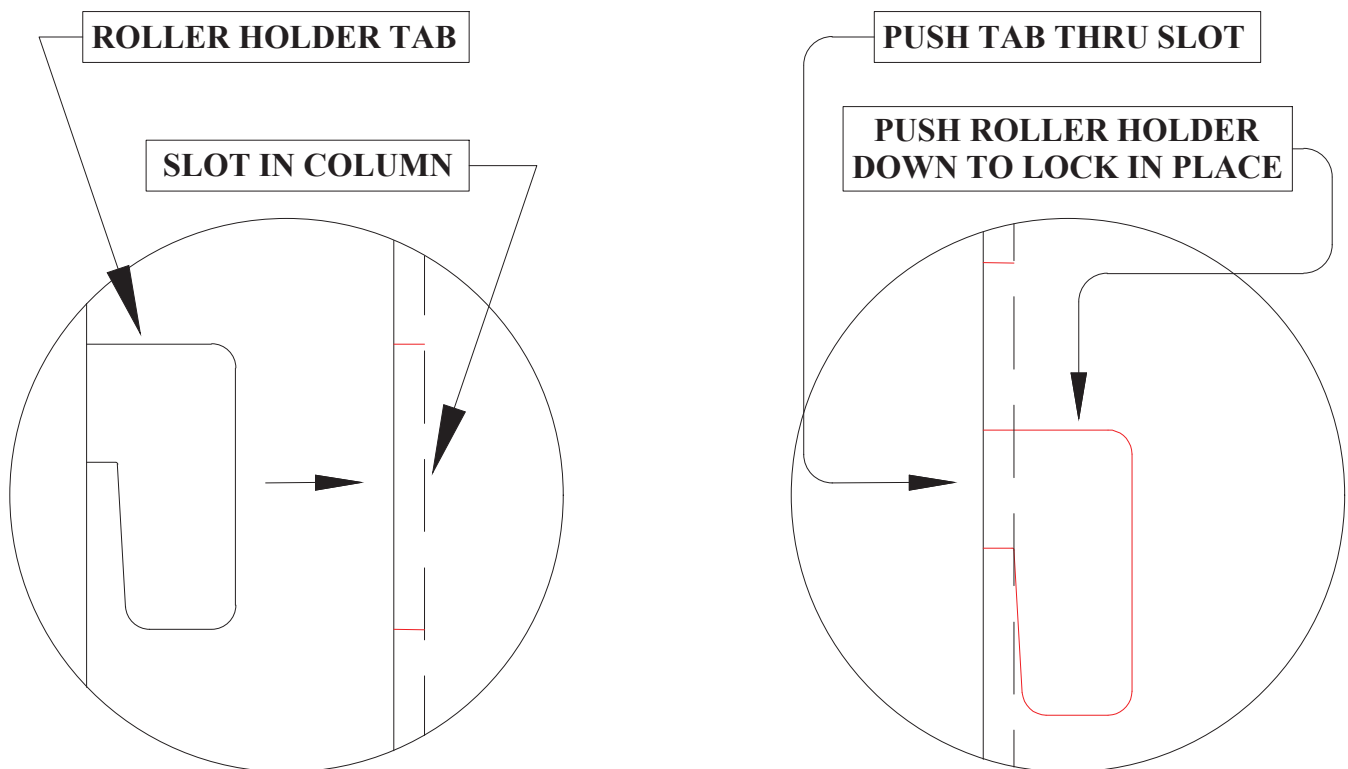
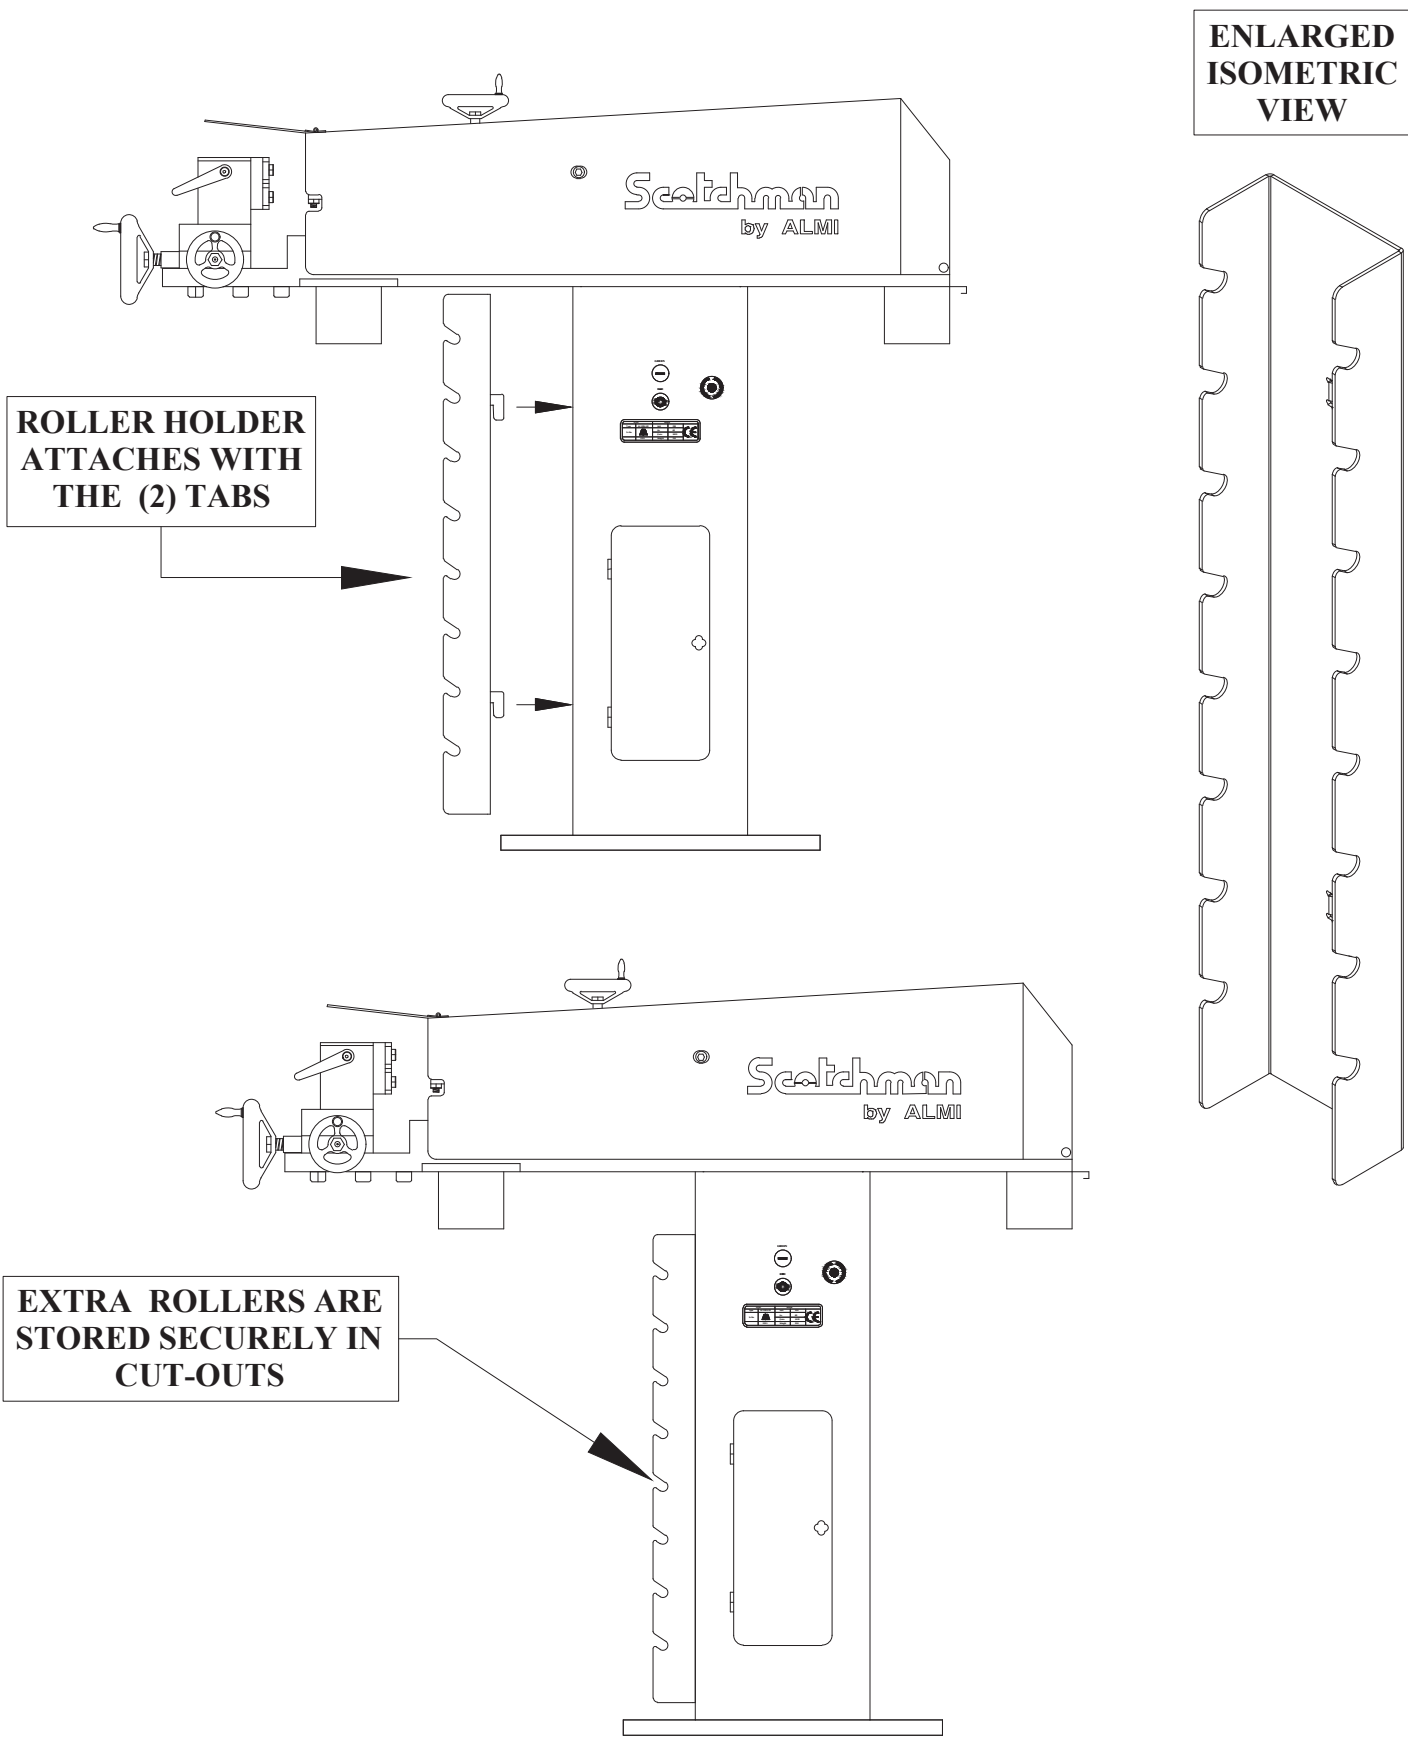

FIGURE 24
FIGURE 25
There is a P/N 04.00303 - Roller Holder available for the AL150 Grinder Notcher. This is a sheet metal part that attaches to the front of the machine. There are (2) slots in the front on the column of the AL150 and the Roller Holder has (2) angled tabs that fit thru these slots. Put the tabs thru the slots and push the Roller Holder down and that's all it takes to attach it to the machine. See FIGURE 24 below & FIGURE 25 on the next page.